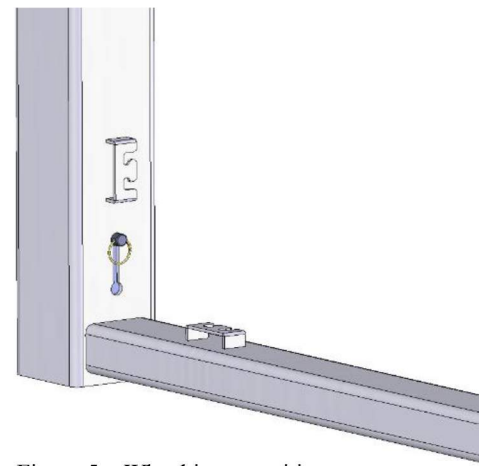

Figure 5 – Wheel in up position
7. With both sides of the soccer goal complete, the rollers can be moved up or down simply by pulling the ring clip and pin outward and sliding the entire roller/tube assembly either up or down in the slot (Fig. 5). Please make sure that all weight has been removed from the assembly prior to changing locations.